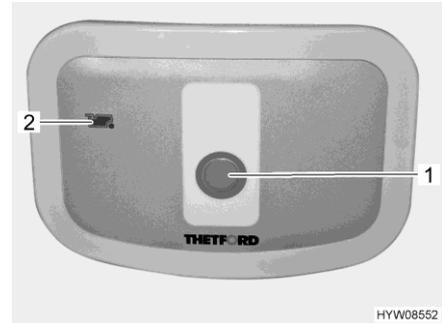

Fig. 109 Flush button/indicator lamp (Thetford toilet)
- For flushing, press the blue flush button (Fig. 109,1).
The indicator lamp (Fig. 109,2) lights up whenever the sewage tank has to be emptied.